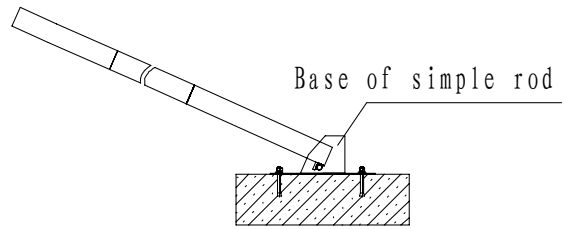
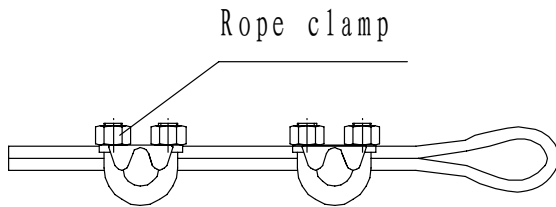
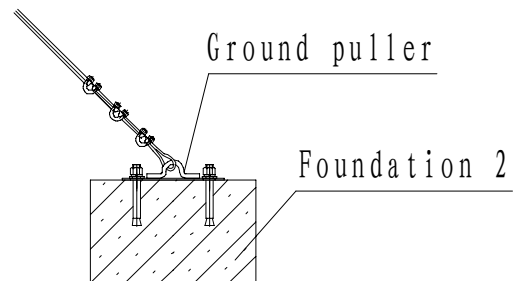

Fig. 3
Fig 4
Fig5
- (2) Put the cable through base of simple rod, tighten the top rod, mid rod and bottom rod in order corresponding to the top nut, while, let the cable pass through, place the bottom of bottom rod into the base of simple rod, loosely connect the bottom rod with the base of simple rod with the bolt. (Fig. 3)
- (3) Mount wind turbine well and fix it at the top rod.
(4) Mount the fixed weight at a distance of 4m from the bottom of rod, and fix it with the bolt, put one end of wire rope into the hole of fixed weight and fasten it with the rope clamp, as shown in fig.4. and let the other of wire rope through the ground puller, as shown in fig.5.